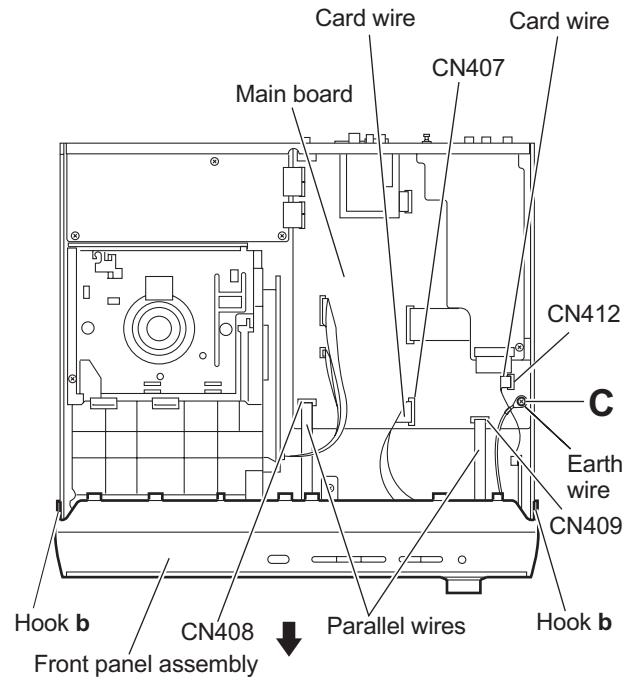

Fig.5
(See Figs.5 and 6)
- (1) From the top side of the main body, disconnect the parallel wires from the connectors (CN408, CN409) on the main board. (See Fig.5.)
- (2) Disconnect the card wires from the connectors (CN407, CN412) on the main board. (See Fig.5.)
- (3) Remove the screw **C** attaching the earth wire to the main board. (See Fig.5.)
- (5) Release the two hooks **b** and hook **c** from the both and bottom sides of the main body, and remove the front panel assembly in the direction of the arrow. (See Figs.5 and 6.)